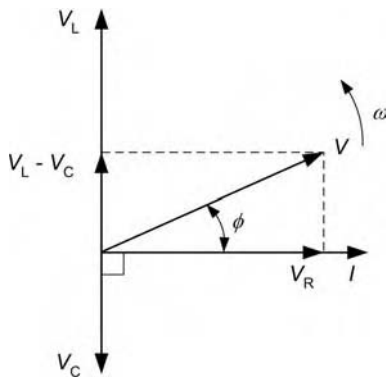
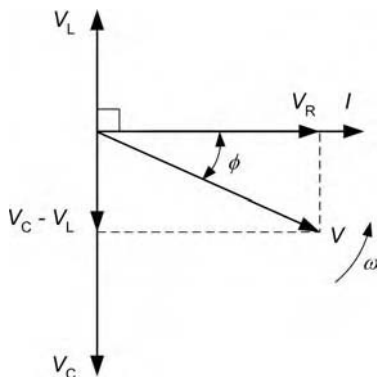

Figure 5.162 Phasor diagram for the series R - C circuit when $X_L > X_C$.
Figure 5.163 Phasor diagram for the series R - C circuit when $X_C > X_L$.
When the inductive reactance (X_L) is greater than the capacitive reactance (X_C), V_L will be greater than V_C and the resulting phasor diagram is shown in Figure 5.162. Conversely, when the capacitive reactance (X_C) is greater than the inductive reactance (X_L), V_C will be greater than V_L and the resulting phasor diagram will be shown in Figure 5.163. Note that once again we have used current as the reference phasor in this series circuit.
From Figures 5.162 and 5.163, you should note that the supply voltage (V) is simply the result of adding the three voltage phasors, V_L , V_C and V_R , and that the first stage in simplifying the diagram is that of resolving V_L and V_C into a single voltage ($V_L - V_C$ or $V_C - V_L$ depending upon whichever is the greater). Once again, the